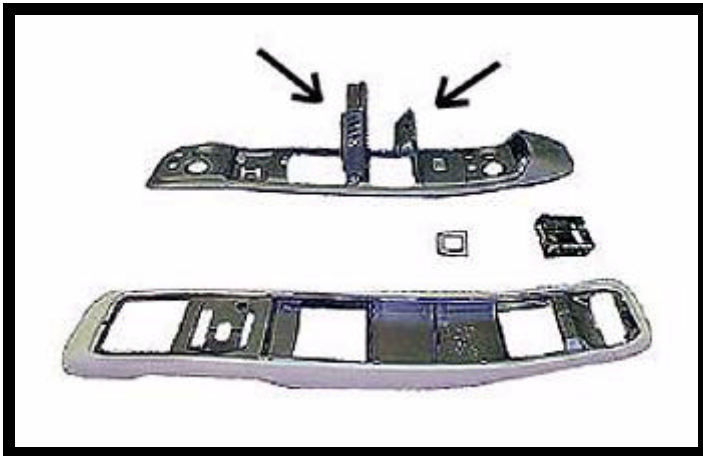

FIGURE 5
5. Turn console over and open both compartment doors. Carefully separate the console from trim ring. Remove electronic compass from console and lay it in a safe place for use later. Remove and retain velcro tape and lay it in a safe place for later use. Discard cloth covered trim ring. See Figure 5.